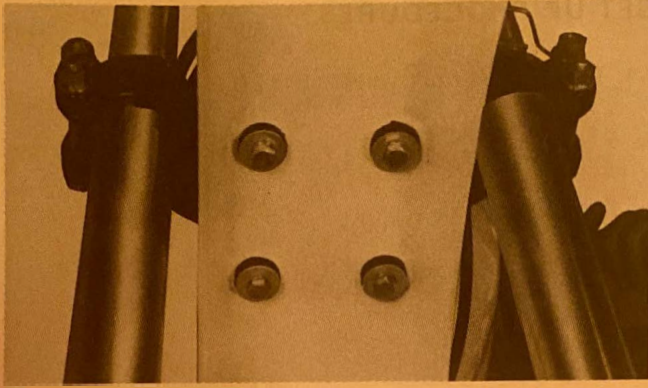

Fig. 11
5. Insert the front fender between the front fork legs, and secure the front fender using the specified number of bolts with spring washers, fender dampers, special washers and fender collars. (Fig. 11)